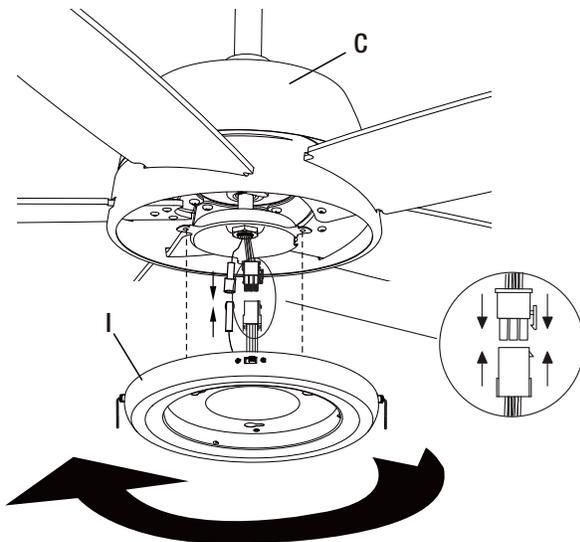
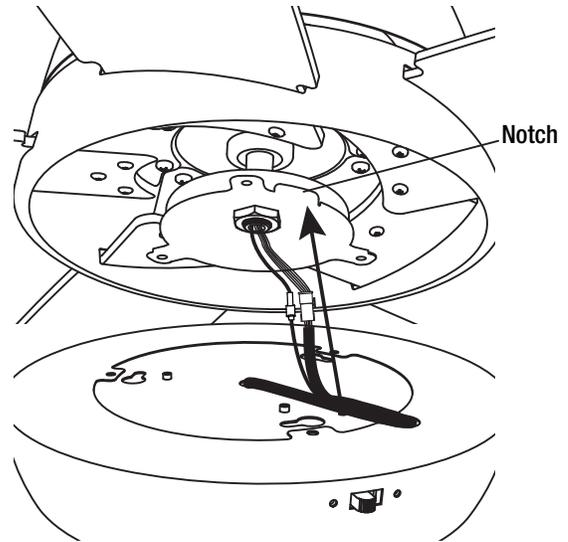

Figure 12
Figure 13
- Connect the blue wire from the fan to the blue wire from the light kit by securely inserting the connectors together. (Figure 12)
- Connect the 6-pin plug from the fan to the 6-pin plug from the light kit by securely inserting the plugs together. (Figure 12)
- Carefully tuck all wires into the switch housing, and align the 3 holes on the light kit (I) to the three screws pre-installed in the switch housing.
**NOTE:** There is a notch at the switch housing for the passage of internal wires from the back of the light kit. Make sure to position the internal wires at this notch to avoid damage to the wires before aligning the screws pre-installed in the switch housing. (Figure 13)